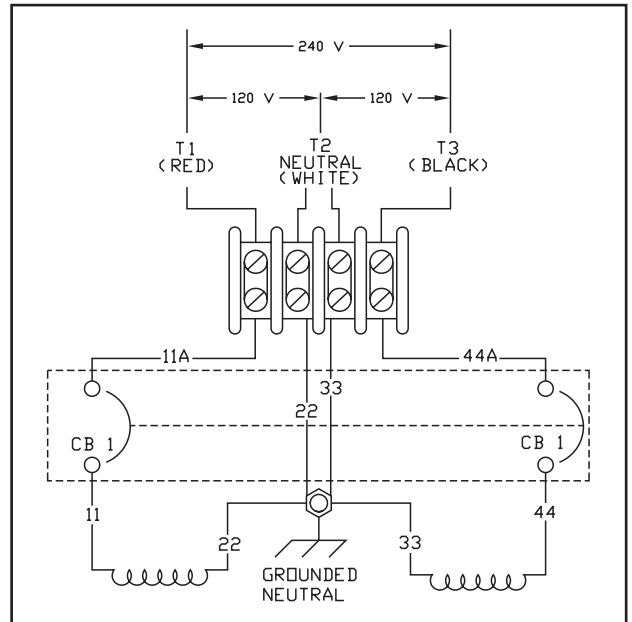
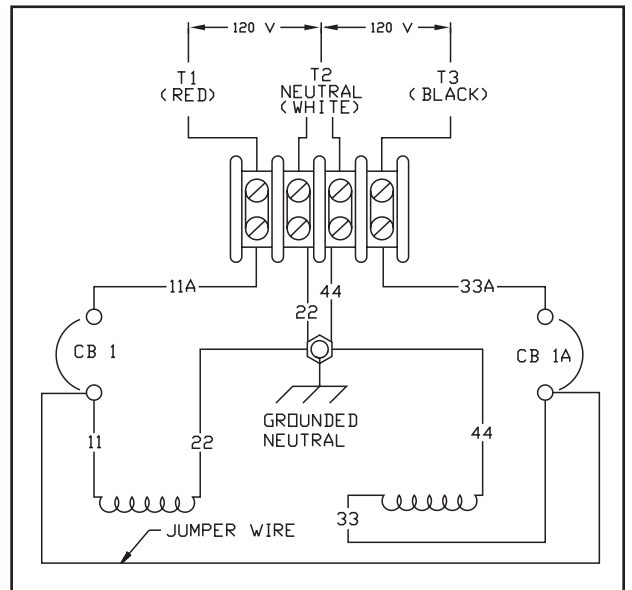

Figure 1-8. – Connection for 120/240 VAC Dual Voltage
Figure 1-9 - Connection for 120 VAC Only — Dual Circuits
1. 120/240 VAC loads — one load with a maximum total wattage requirement equal to the generator's rated power output, and 240 VAC across the generator output terminals; or two separate loads, each with a maximum total wattage requirement equal to half of the generator's rated power output (in watts), and 120VAC across the generator output terminals. Figure 1.9 shows the generator lead wire connections for 120/240 VAC loads.
2. 120 VAC loads only — one load with a maximum total wattage requirement equal to the generator's rated power output (in watts), and 120V across the generator output terminals. Figure 1.8 shows the generator lead wire connections for 120VAC ONLY.
Figure 1-9 shows the stator power winding connections for 120 VAC only - dual circuits. Two stator power windings are used, with each winding capable of supplying half of the unit's rated wattage/ampere capacity. The circuit from each winding is protected against overload by a line breaker (CB1 and CB1A). Line breakers CB1 and CB1A have a trip rating of 35 amps.
1. Remove stator lead Wire 33, as shown in Figure 1-8, from the ground stud adjacent to the four-position terminal block.
Reroute stator lead 44 from the line side terminal of CB1 (renamed as CB1A in Figure 1-9) to the ground stud location previously occupied by stator lead Wire 33.
4. Renumber ground Wire 33, located between the four-position terminal block and ground in Figure 1-8, as ground Wire 44, as shown in Figure 1-9.
5. Renumber Wire 44A from Figure 1-8 as Wire 33A in Figure 1-9.
6. Connect a 12 AWG jumper wire between line breakers CB1 and CB1A, as shown in Figure 1-9.